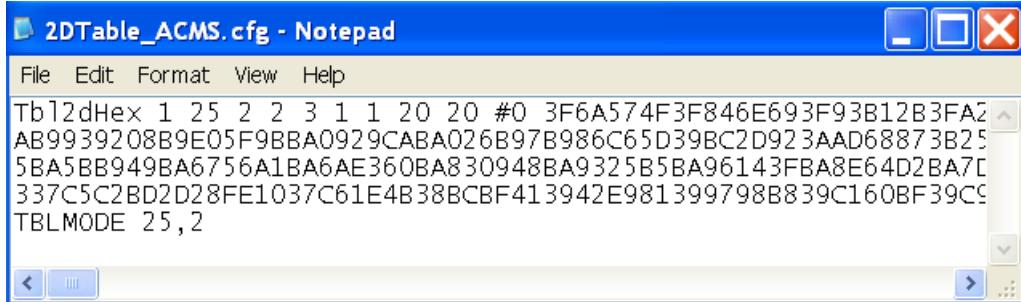

Figure 12: MR calibrated configuration file for the ACMS
1. Open the new MR calibrated *.cfg file located under <\\QdPpms\Tools>. (Figure 12)